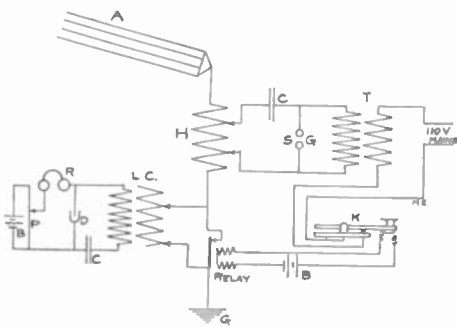

FIG. 2
-FIG. 2-
- FIG. 2 -
The construction of the jack is shown clearly in Fig. 2; it consists in a piece of sheet copper 1 3/4 inches long and 1/2 inch wide, bent in the centre so that the two ends will come together, or, I might say, that the piece is doubled, the two sides at the end are flanged out to facilitate connecting with the switchboard. About 8 of these will be required, making 4 pairs, each pair being connected together by a piece of flexible conducting cord soldered to them.